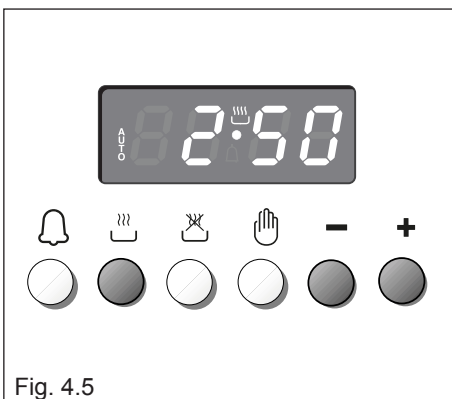

Fig. 4.5
1. Set the length of the cooking time by pushing the button and the  $+$  button to advance, or  $-$  to go back if you have passed the desired time (fig. 4.5).